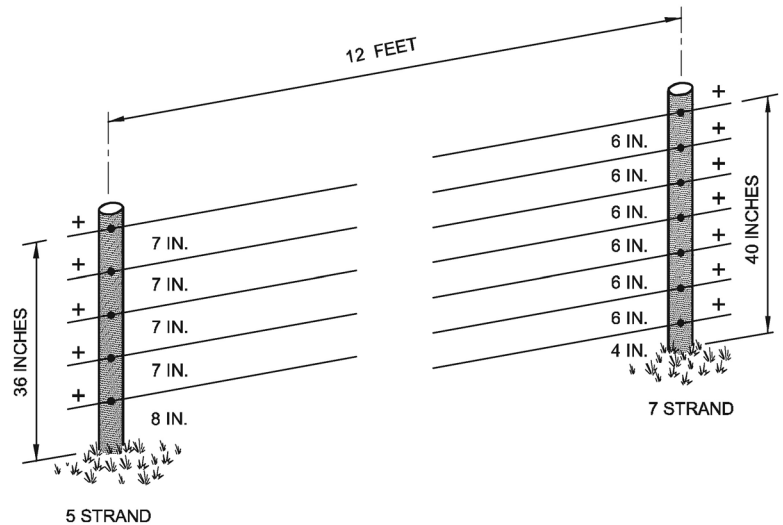

Figure 4 Permanent / Temporary Electric Bear / Beehive Fence
Bears cause hive damage if allowed free access, especially upon emerging from hibernation or in early fall prior to hibernation. Electric fences can be effective in protecting hives when properly constructed and maintained. A design is shown in Figure 4 using 5, all electrified wires. Permanent or temporary posts may be used, depending on the hive site. For temporary sites, an option is a net fence fabric of poly wire with attached posts. See page 4 of Factsheet 307.100-1 *Commonly Used Wire for Agricultural Fences*.
- The electric fence design in Figure 4 has all wires electrified and an earth return system (see page 1 of Factsheet 307.320-1 *Grounding Systems for Electric Fences*). This limits its effectiveness to conditions of moist ground, unfrozen ground and no snow cover.